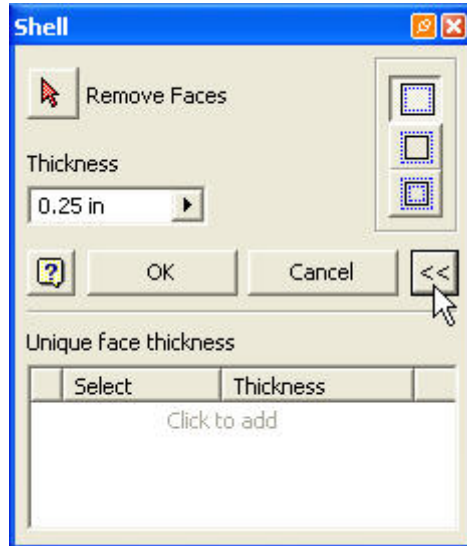

Figure 5
6. Click on the button with the two greater than symbols located at the bottom right corner of the dialog box to open the unique face thickness options dialog as shown in Figure 5.